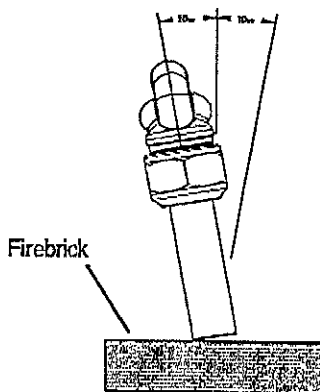

Figure 4: Flame Testing the Torch
9. With the proper flame set, depress the cutting oxygen lever and place the tip on a firebrick at approximately 10° from the vertical position (see Figure 4). Rock the torch from side to side for 5-8 seconds. The torch will produce multiple backfires during this operation. The torch must not produce a sustained backfire (burning inside the torch). This condition will be indicated by a hissing or whistling sound.